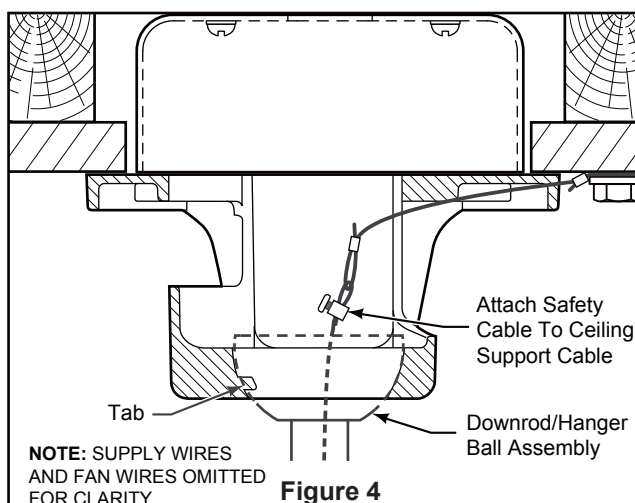

Figure 4
4. Slide downrod into the downrod support on top of the motor. Install the clevis pin by aligning the holes in the downrod support with holes in the downrod. Secure clevis pin with hairpin clip. Install and tighten the two previously removed set screws with nuts in the downrod support. (Figure 4)
- ☐ 4. Carefully lift the fan and seat the downrod/hanger ball assembly onto the hanger bracket that was just attached to the outlet box. Be sure the groove in the ball is lined up with tab on the hanger bracket. (Figure 4)
- ☐ 5. Attach the safety cable to ceiling support cable. Slide cable clamp and washer onto safety cable (from fan). Place the end of cable through the loop of ceiling support cable. Pull as much cable through loop as possible. Feed end of cable into clamp hole and firmly tighten screw. (Figure 4)
3. Connect green wires from hanger bracket, hanger ball and ground from supply using wire connector. Connect black wire from receiver unit marked "AC IN L" to black supply wire using wire connector. Connect white wire from receiver unit marked "AC IN N" to white supply wire using wire connector. Connect white wire from receiver unit marked "TO MOTOR N" to white wire from fan using wire connector supplied with receiver unit. Connect black wire from receiver unit marked "TO MOTOR L" to black wire from fan using wire connector supplied with receiver unit. Lastly, connect blue wire from receiver unit to the blue fan light wire using wire connector supplied with receiver unit. (Figure 4)
4. To set the remote code in the same positions as the receiver, use a small screwdriver or ball point pen (neither included) to slide dip switches firmly up or down. (Figure 4)